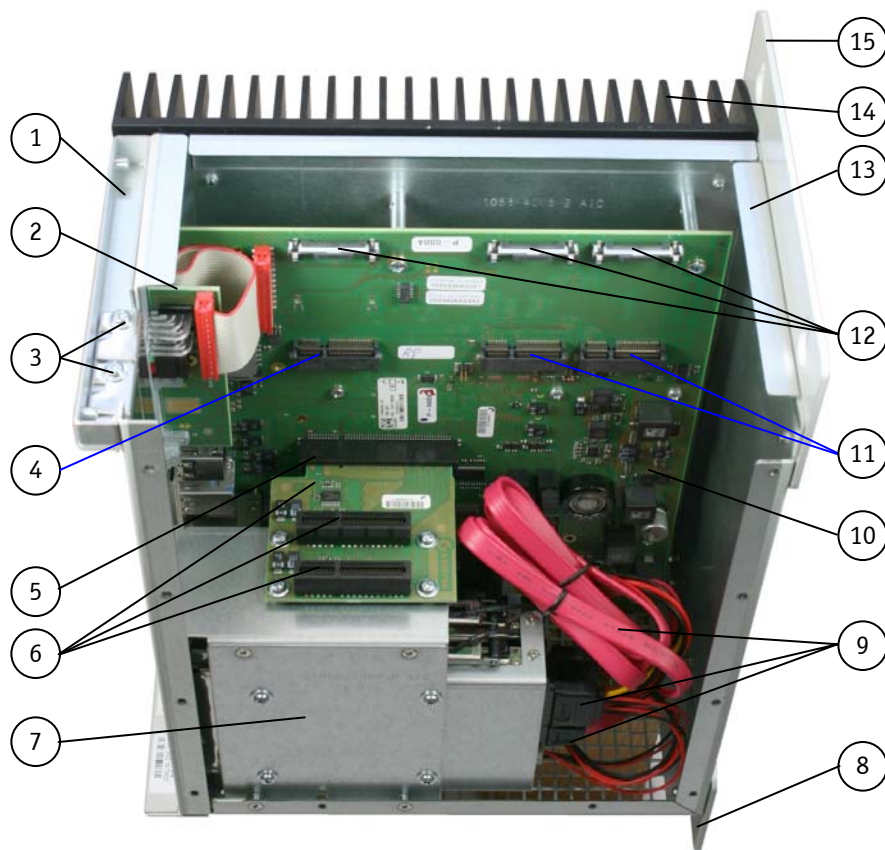

Fig. 27: KBox C-101 - internal view
The KBox C-101 provides two internal Mini PCIe slots. One of them you can see in Fig. 27, pos. 4. The second Mini PCIe slot is on the bottom of the baseboard and can be only at the factory fitted with an expansion card.
The KBox C-101 provides two internal Mini PCIe slots for PCIe Mini cards. One of them you can see it in Fig. 27, pos. 4). The second Mini PCIe slot is on the bottom side of the baseboard and can be only at the factory fitted with an expansion card.
For installation/removing of the PCIe Mini card (Fig. 27, pos. 4), please refer to the subsection 10.2.2 "Installing/Removing the PCIe Mini Card".
For installation/removing of the PCIe x4 cards (Fig. 27, pos. 6), please refer to the subsection 10.2.1 "Installing/Removing the PCIe Expansion Cards".